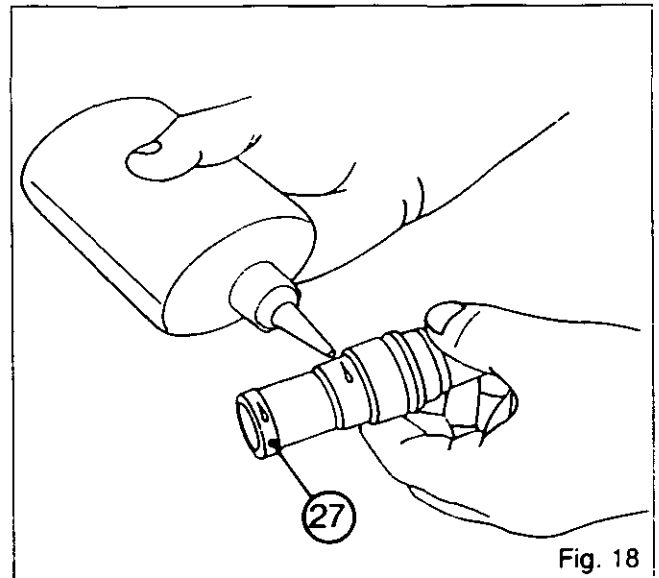

Fig. 18
**Note:** The valve (8) is fitted in the support housing (9).
The sleeve (27), smeared with Loctite 648 (Fig. 18) is fitted with a press. If disassembly proves necessary, check when reassembling that the channel is not obstructed with Loctite.